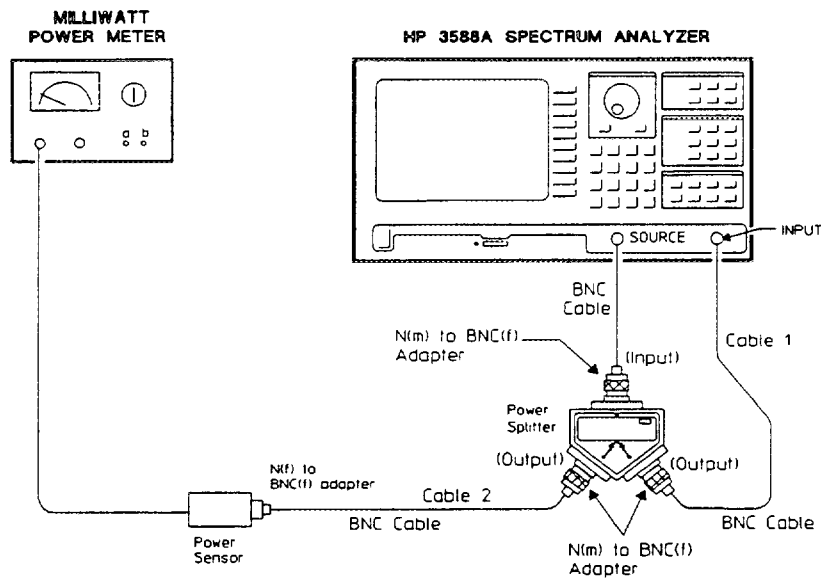

Figure 3-9. Frequency Response Setup
5. Connect the test equipment as shown in figure 3-9.